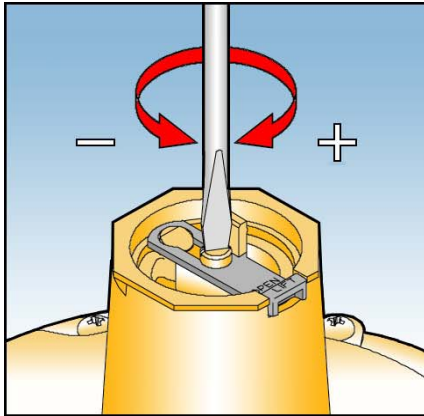
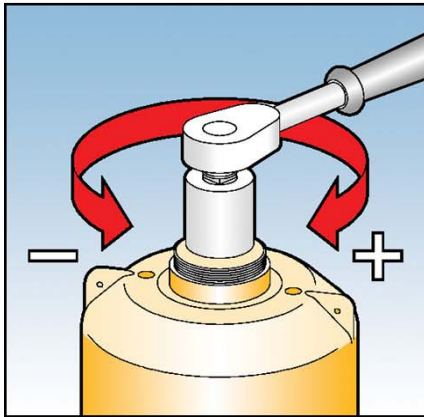

Fig. 3
Fig. 4
3. On low pressure unit insert a flat bladed screwdriver into the slot in the end of the spring adjusting screw (Fig 3). On medium and high pressure units attach a suitable spanner or socket to the hexagon on top of the spring adjuster (Fig 4).
RE-ARMING THE VALVE (Fig 4)